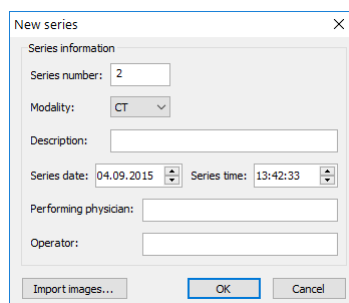

Figure 428 – New series dialog
3. Fill the information concerning the new series into the **New series** dialog (see Figure 428).